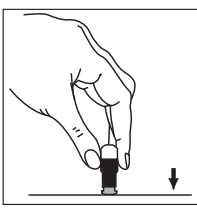

Figure 3, Abbildung 3, Figura 3, 图 3
- Slightly spread the amalgamator clips and carefully insert the capsule. Ensure that the capsule is securely anchored between the clips. (see figure 3).